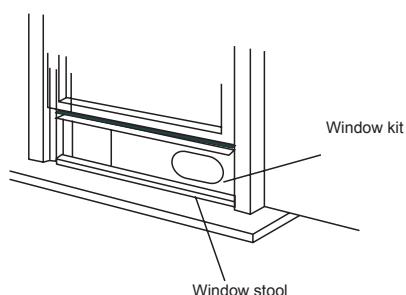

Fig. 12
3. Cut the foam seal (adhesive type) to the proper length and attach it on the top of the window. Shown as in Fig.12.